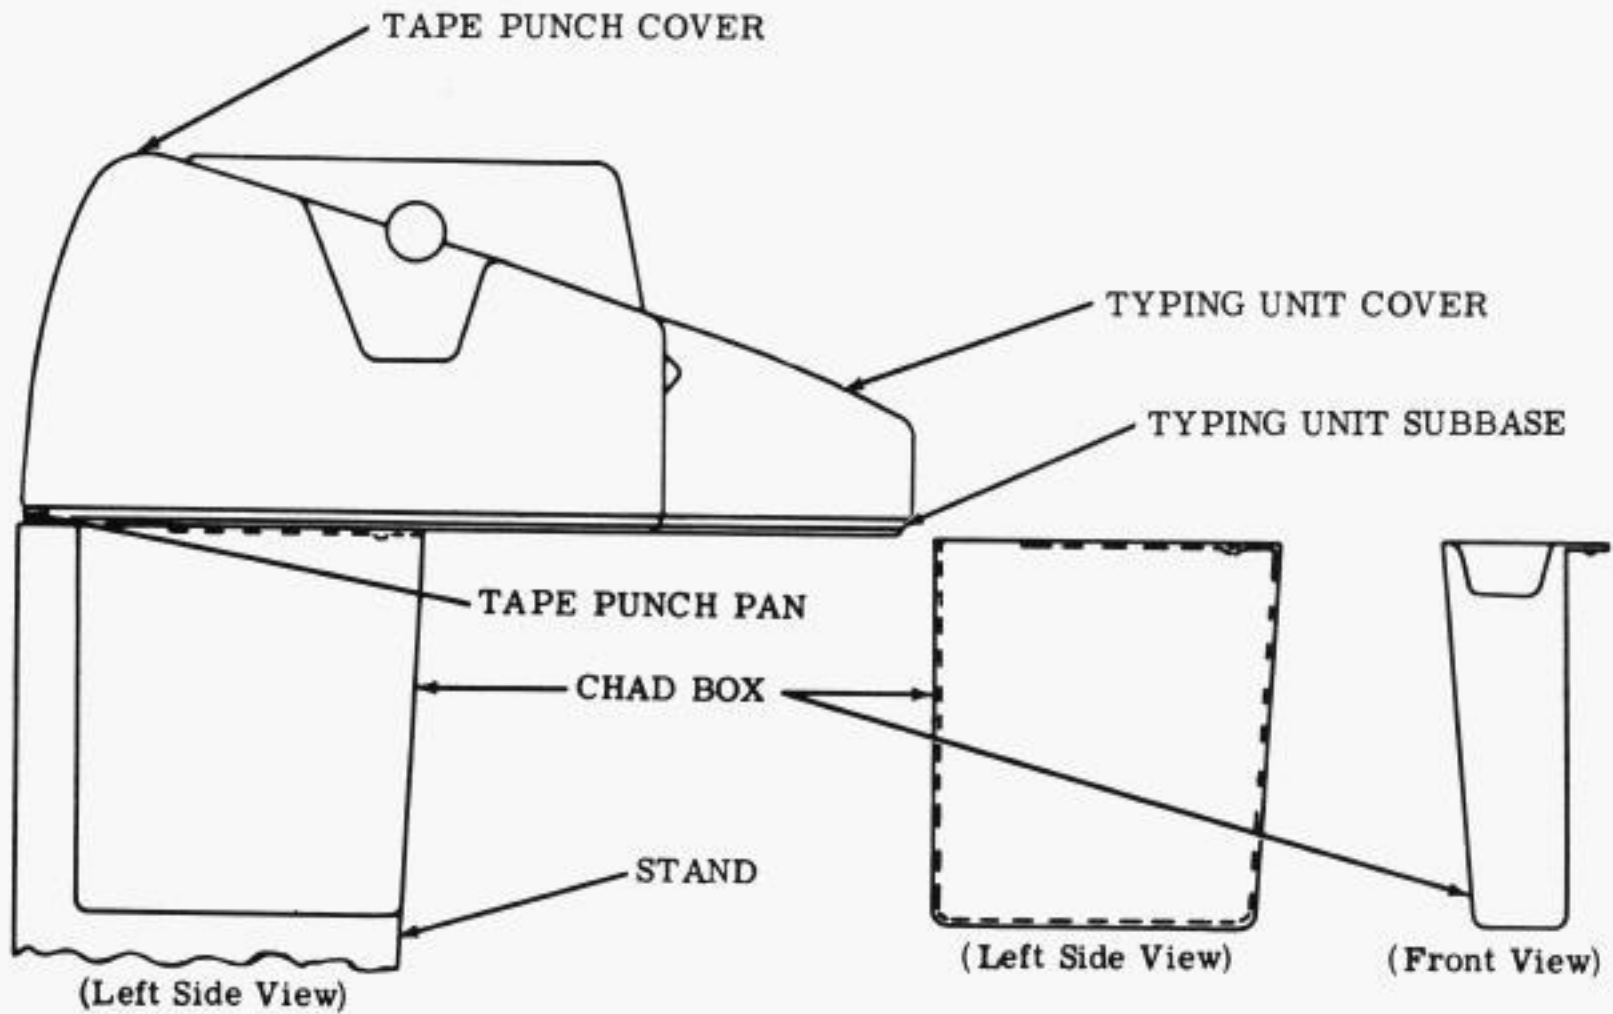

Figure 15 - Tape Punch Chad Chute Assembly
7.03 Figure 15, illustrates the chad box installation.